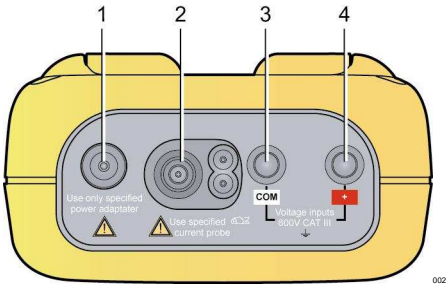

Figure 3: Terminals on the top.
See also § 12.2, on page 39. The storage batteries are recharged using the mains power unit supplied with the instrument. It is connected to the C.A 8230 using the jack (Figure 3, item 1). Use only the mains power unit supplied with the equipment.